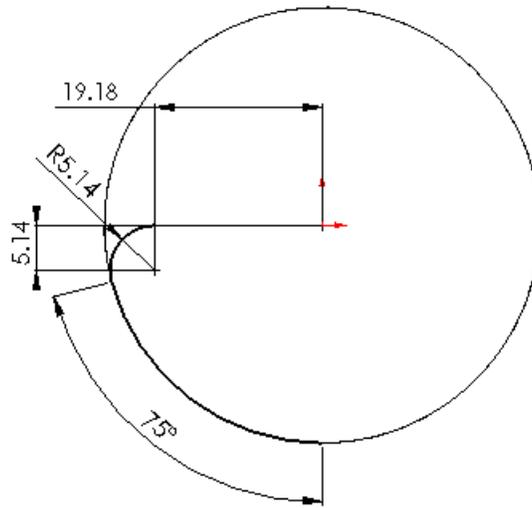

Figure 9-120 First sketch of right end-clip
5. Choose the **3 Pt Arc** button from the **Sketch Tools** toolbar. Specify the start point of the arc on the endpoint of the previous arc. Create the arc as shown in Figure 9-120.
6. Add the **Pierce** relation between the start point of the first arc and the helical path. Add the other relations and the dimensions to fully define the sketch. The fully defined sketch is shown in Figure 9-120.